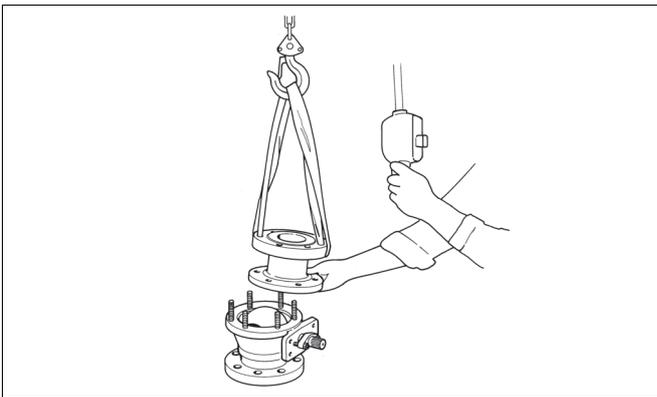

Fig. 17 Lifting the body cap
- ❑ Place the valve in a standing position on the pipe flange end. Use a level surface that will not scratch the flanges. See that the body stud nuts (16) are facing upward.
- ❑ Remove the key (10).
- ❑ Unscrew the body stud nuts (16).
- ❑ Remove the body cap (2). If the seat (7) is not lying on the ball (3), prevent the seat from falling from the body cap and detach it later. **Don't leave your fingers between the body cap and the surface!** Stand the removed body cap on its pipe flange. See Fig. 17.